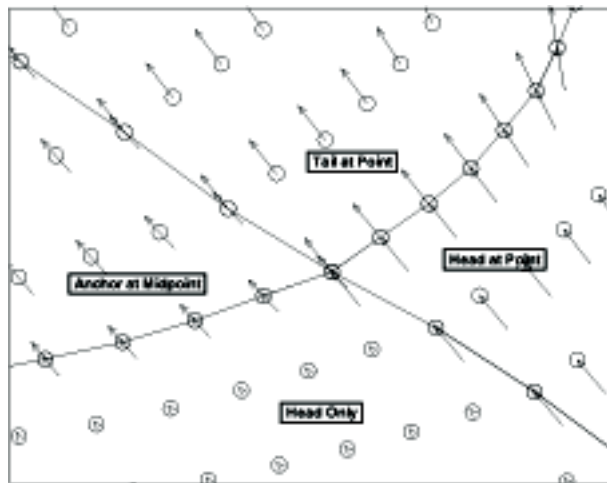

Figure 13-8. The Vector plot types: tail at point, head at point, anchor at midpoint, and head only.
- **Vector Type** - Select from the following arrowhead locations to specify the vector type: tail at point, head at point, anchor at midpoint, or head only. Figure 13-8 shows examples of each of the vector plot types.